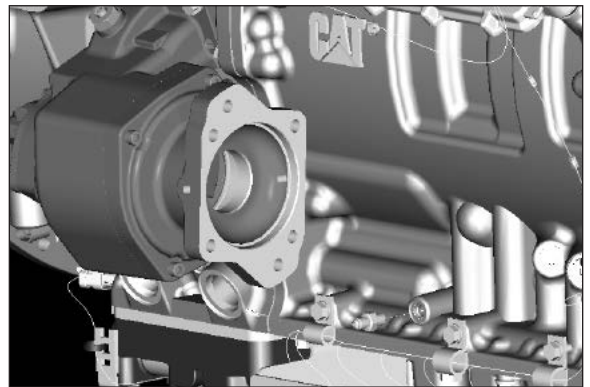

Fig. 33
6. Install the remaining capscrews. Torque them to 37-44 lbs-ft [50-60 Nm] (**Fig. 33**).